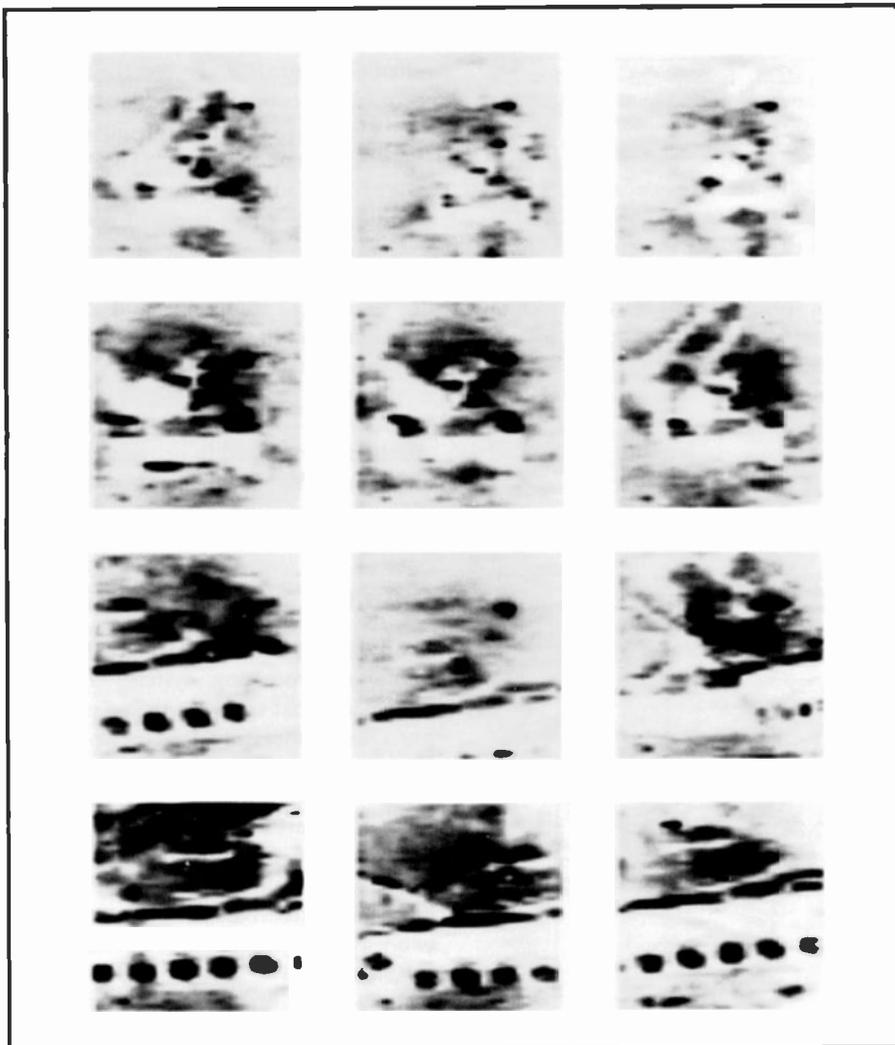

Fig. 7. Thermal image of tank sensed from infrared CCD focal plane array.
CCD. RCA is also a significant producer of CCD components. The CCD process line is used to fabricate custom CCDs for military applications such as channelized receiver systems and radar signal classifiers. A very significant development is the infrared CCD Focal Plane Array sensor based on the Schottky-barrier principle. This technology is being developed (1) to enable identification of tanks and other targets at night and through battlefield smoke and haze, and (2) to guide weapons automatically (see Fig. 7).